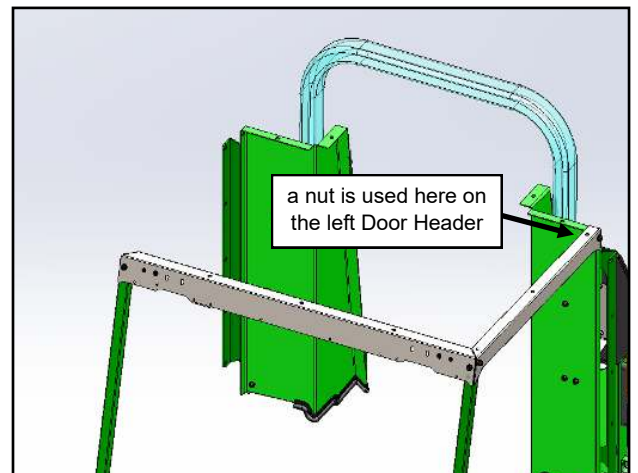

Fig. 8.1 (Install left Door Header)
8.1 Per fig. 8.1, install the left Door Header oriented with the square cut end towards the rear of the vehicle. Leave both bolts loose.